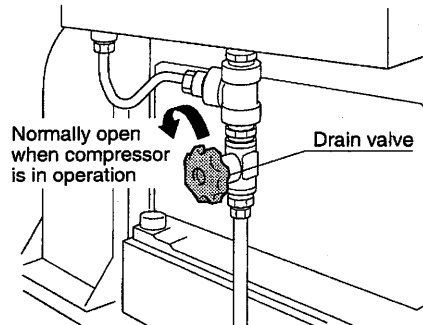

Fig. 8
- * Drain valves under the drain separator (1st stage) and cooler cover (2nd stage) have to be closed at maintenance and inspection of the magnetic valve and at malfunction of the magnetic valve. In normal operation, keep the drain valves open. (Fig. 8)